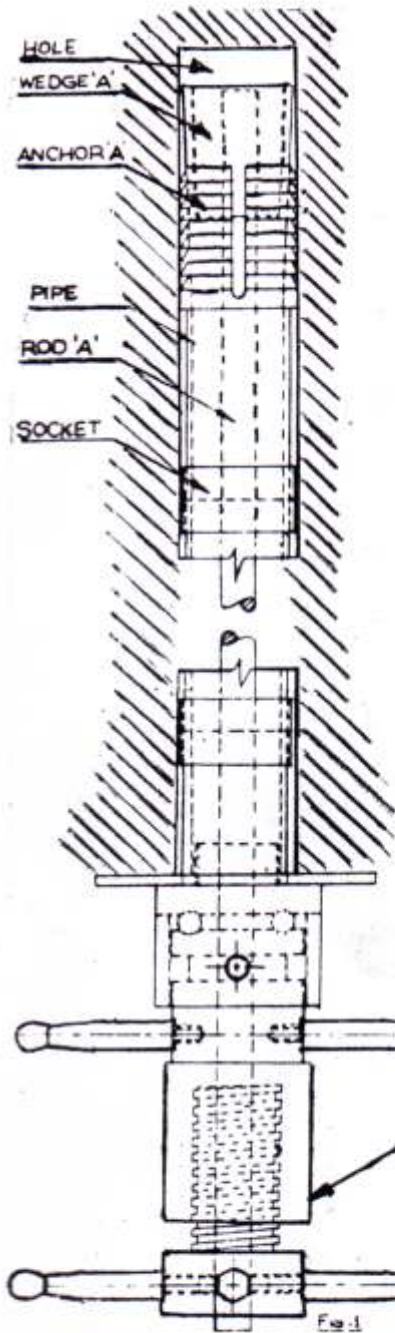

Fig. 1
- 10) Readings are observed between Reference Station and Anchor station as shown in fig. 1